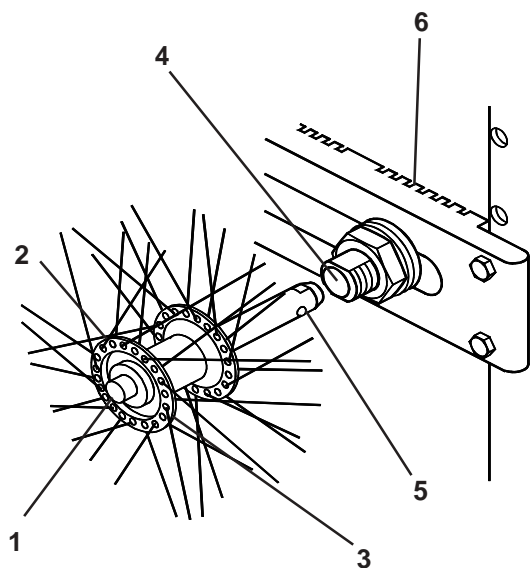

Fig. 24
To remove quick-release axles (Fig. 24) simply press the quick release button (1) which is located in the wheel hub (2), and grip the wheel through the spokes (3) around the hub and pull the axle out of its sleeve (4). To replace, slide the axle into the sleeve until the release button 'pops' out and the two locking pins (5) are visible on the inside (6) of the sleeve.